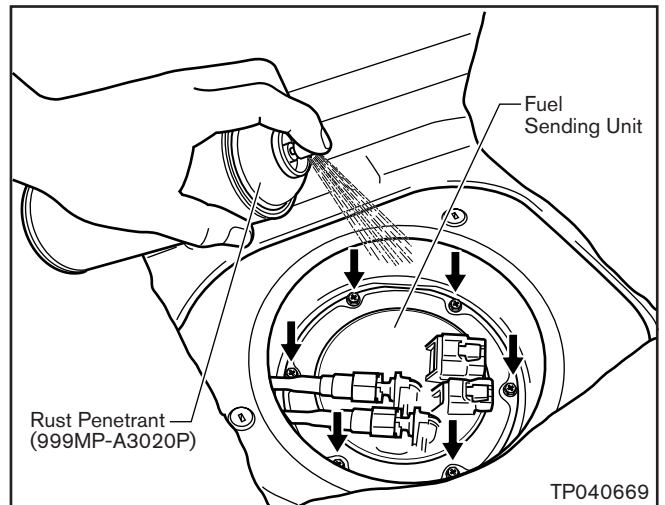

Figure 36
- b. Then, apply Rust Penetrant (999MP-A3020P) to the Fuel Sending Unit Mounting Flange Bolts (see Figure 36). Allow the penetrant to “soak” for a few minutes.